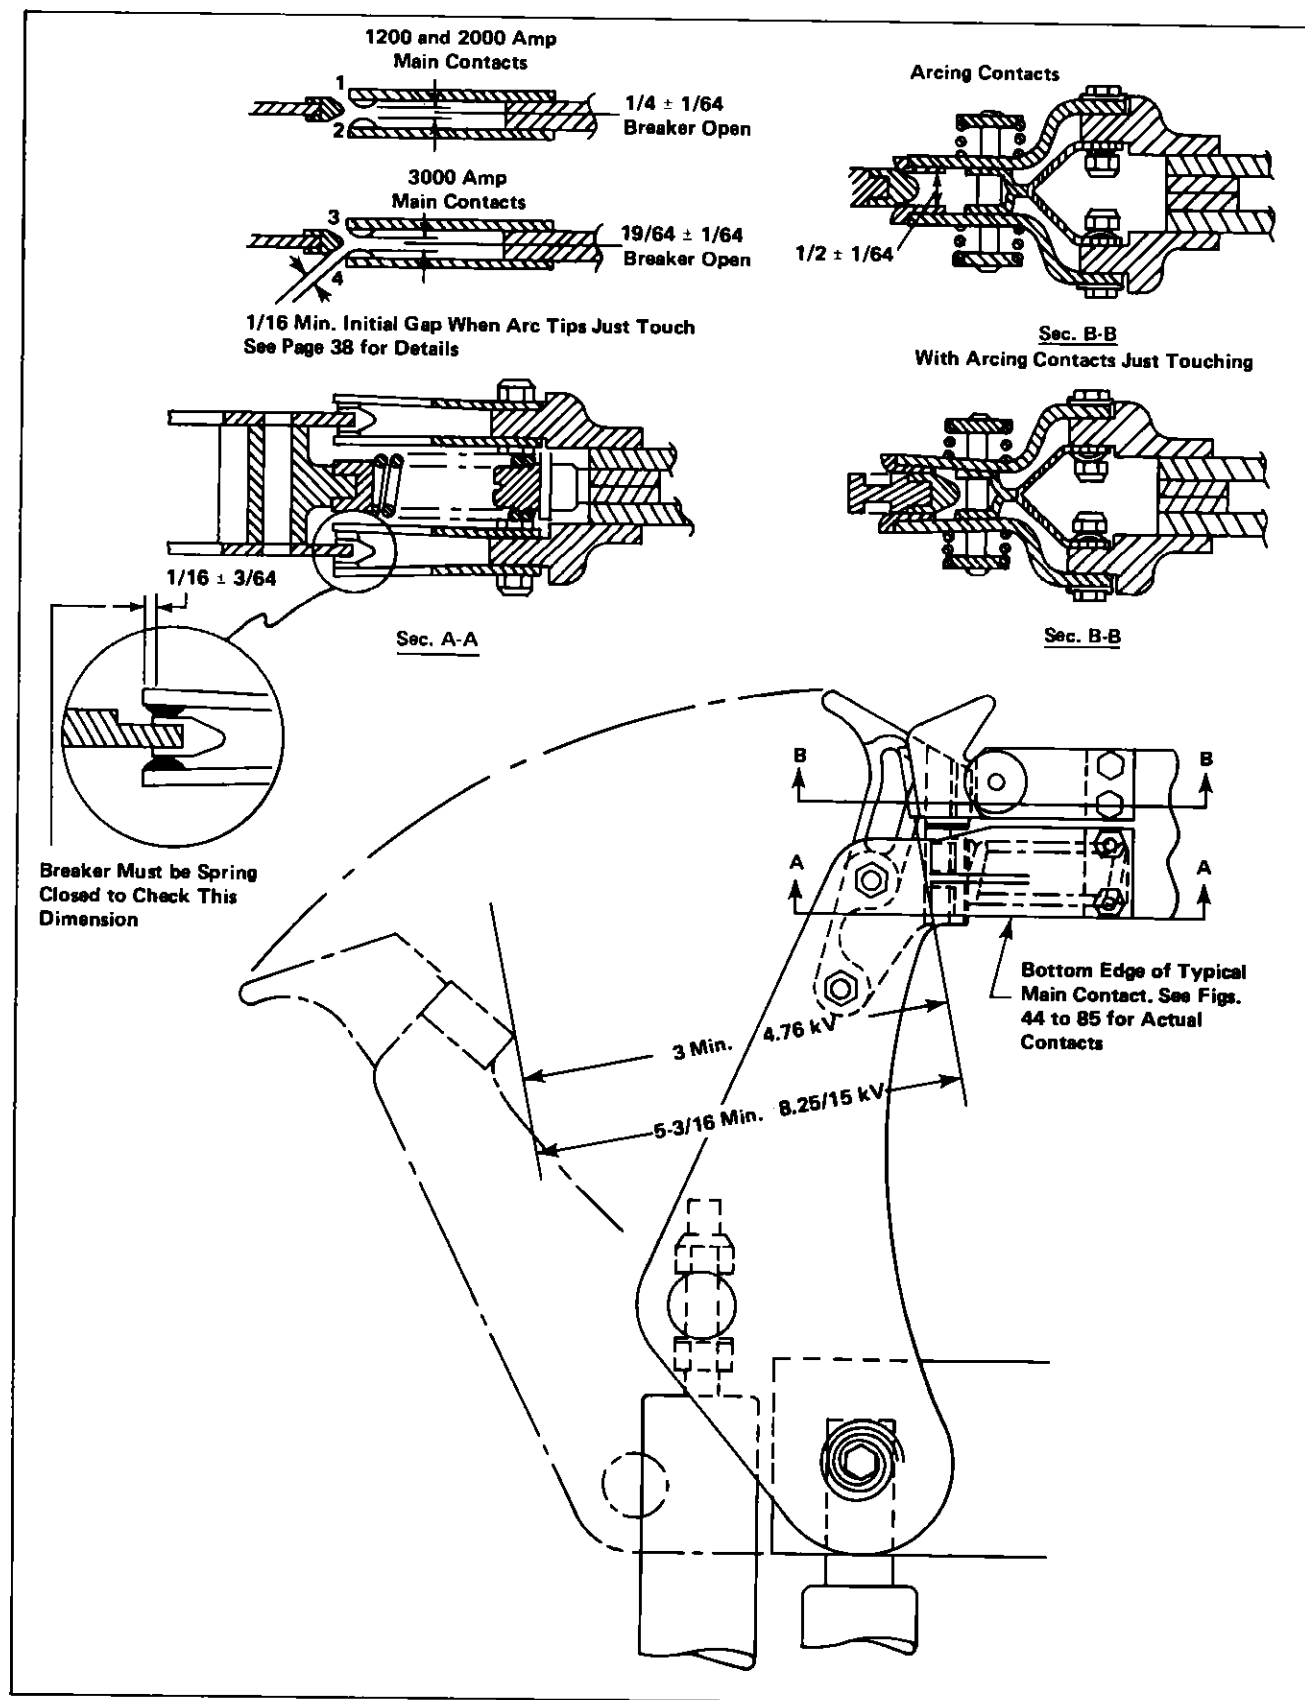

Fig. 32 Contact Adjustments
g) Check contact penetration — With contacts closed by means of the closing spring, check for proper main contact penetration. See section on Adjustments and Fig. 32.